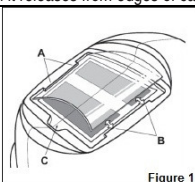

Figure 1
Replacing Front Cover Lens : Replace the front cover lens if it is damaged (cracked, soiled or pitted). Place your finger or thumb into recess (C) at the bottom edge of the cover lens and flex the lens upwards until it releases from the edges marked A and B. (Refer to figure 1).